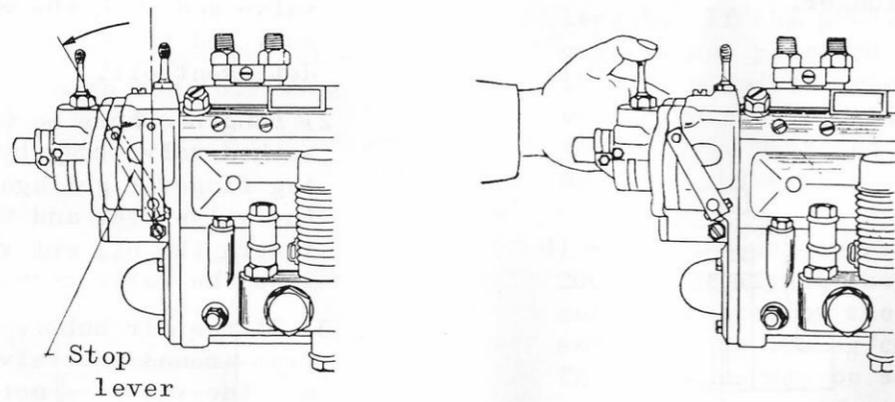

Fig. 9-24
- 2) After 5 seconds, quickly release the finger from the nipple. If the diaphragm inflates with a pop, it may be regarded as normal. (See Fig. 9-24)